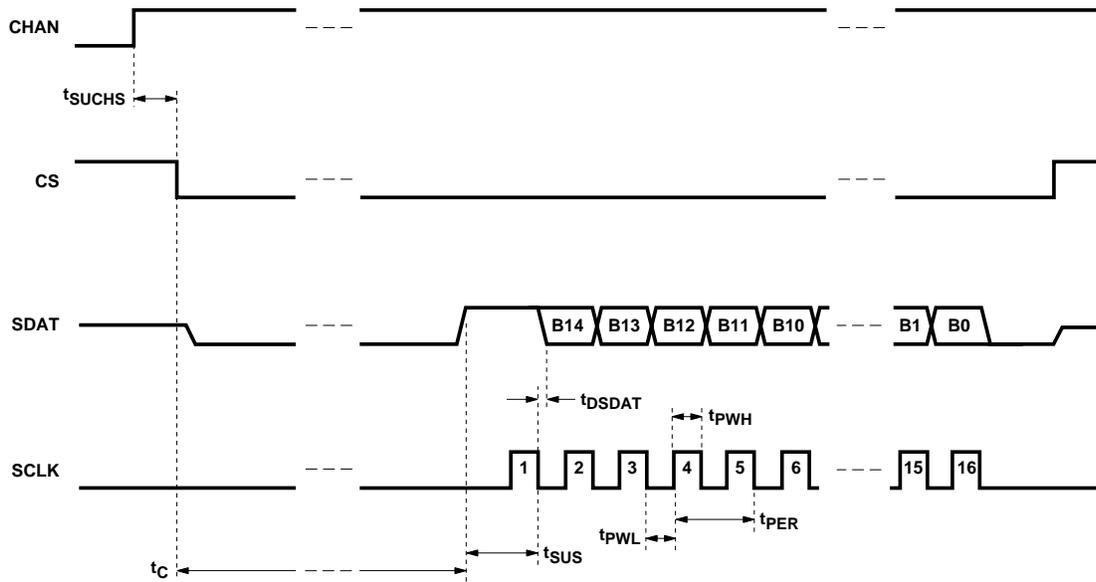

Figure 19. Conversion timing.
Figure 19 illustrates the timing for one complete conversion cycle. A conversion cycle is initiated on the falling edge of the convert start signal (CS); CS should be held low during the entire conversion cycle. When CS is brought low, the serial output data line (SDAT) changes from a high-impedance to the low state, indicating that the converter is busy. A rising edge on SDAT indicates that data is ready to be clocked out. The output data is clocked out on the negative edges of the serial clock pulses (SCLK), MSB first. A total of 16 pulses is needed to clock out all of the data. After the last clock pulse, CS should be brought high again, causing SDAT to return to a high-impedance state, completing the conversion cycle. If the external circuit uses the positive edges of SCLK to clock in the data, then a total of sixteen bits is clocked in, the first bit is always high (indicating that data is ready) followed by 15 data bits. If fewer than 16 cycles of SCLK are input before CS is brought high, the conversion cycle will terminate and SDAT will go to the high-impedance state after a few cycles of the Isolated Modulator's clock.